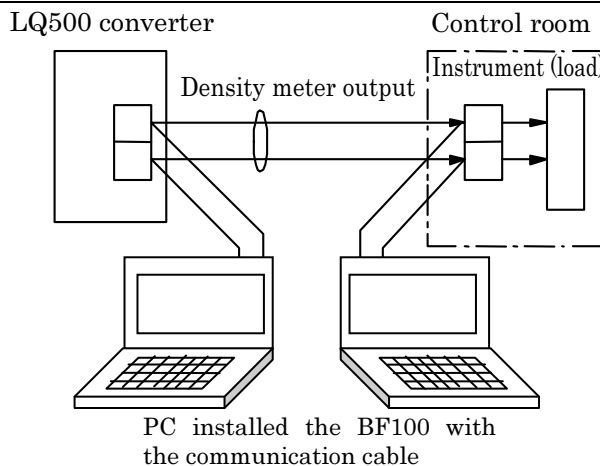

Figure 9. Wiring for communication function
(1) Make sure the load resistance of 4-20mA dc line of output is between 240 and 750 ohm, and the load capacitance is 0.25 μ F maximum.
(2) The BF100's cable lead can be connected to the LQ500 anywhere along the current output line. For example, the cable lead may be connected to the signal terminals on the receiving side in the control room. See Figure 9.